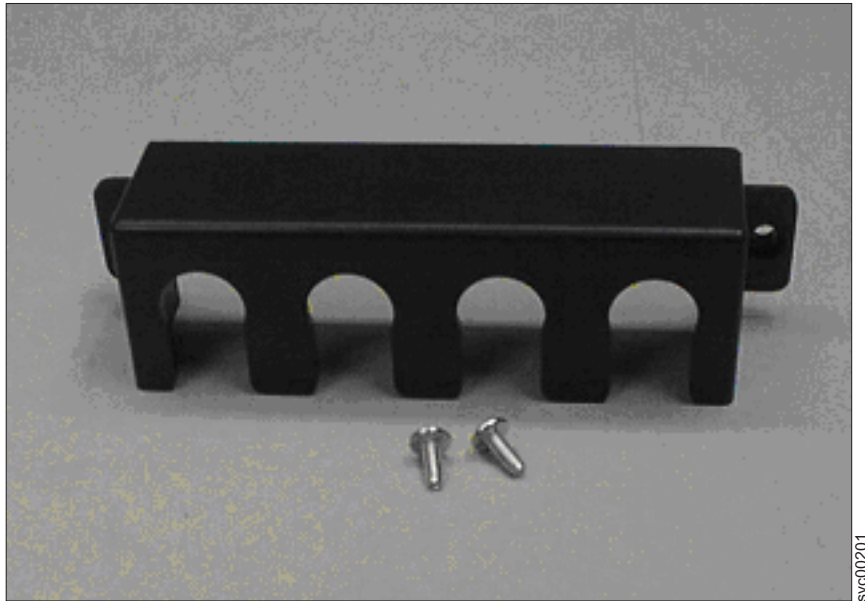

Figure 295. 2145 UPS-1U power cable-retention bracket hardware
**Note:** The 2145 UPS-1U power cable-retention bracket (shown in Figure 295) can be attached only to the most recent versions of the 2145 UPS-1U. Older versions do not have the correct mounting holes.